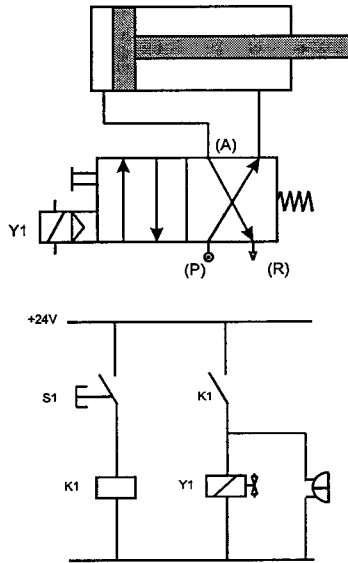

Figure 5.
10. Suggest two methods to modify the electro-pneumatic system shown in Figure 5 so that it has the latching function.